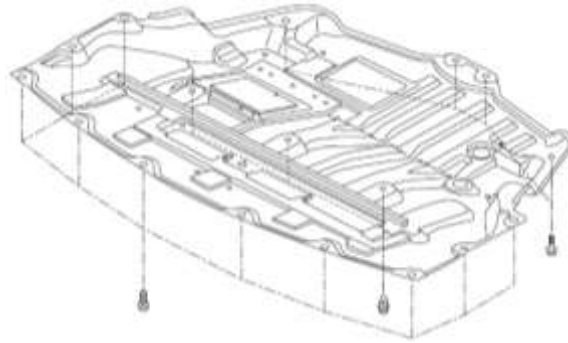

Figure 1
3. Remove the lower engine Splash Shield/Undershroud. It will be secured by an assortment of 10mm screws and plastic panel clips. *Figure 1.*